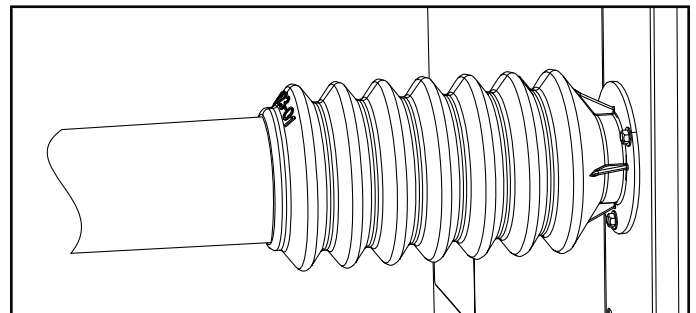

FIGURE 6. Install Armaflex Over End of Sleeve and Clamp
- 4 - Install a piece of field-supplied Armaflex over the band clamp and the end of the line set joint sleeve to prevent sweating (see figure 6).